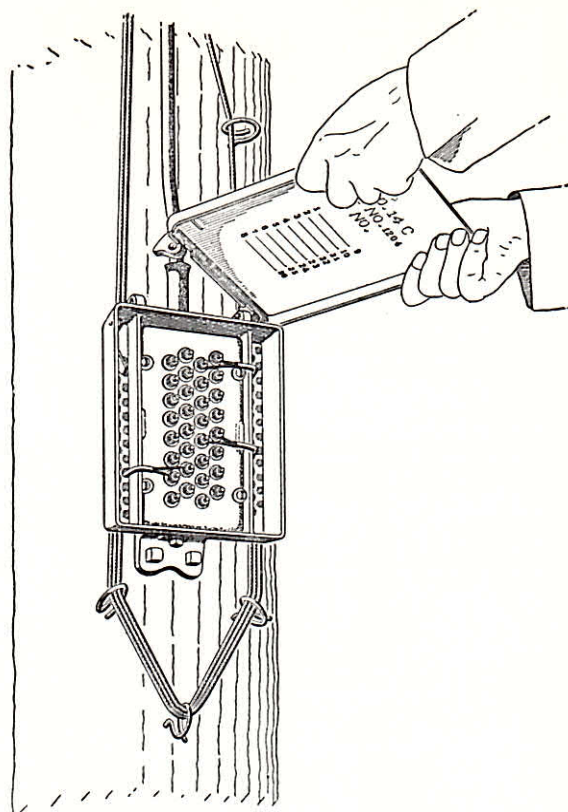

Fig. 3
(1) Cut one of the hinge rivets, or the iron wire if this has been used to attach the hinged cover, by means of a hack-saw with the blade placed between the lugs of the hinge.
(2) Remove the cover by raising it to a position parallel with the ground and pivoting it about the fixed hinge to force the remaining rivet free. Where iron wire has been used, pull it through the fixed hinge or, if necessary, cut it at that point and lift off the cover. See Fig. 3.